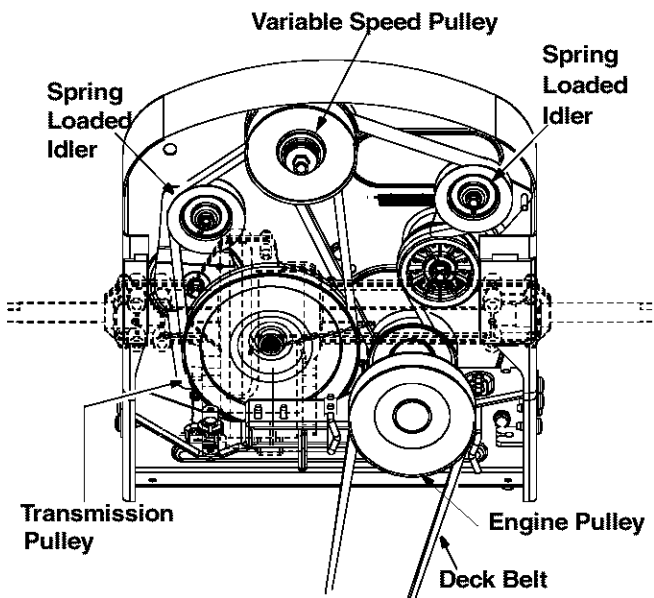

Figure 16
- Make sure to align the belt keeper in line with the frame. See Figure 16.
- Push the spring loaded idler, located on the left side of the transmission, to the right. Remove belt from around the idler and then the transmission pulley. See Figure 16.
- Push the idler bracket to the right and remove the belt. See Figure 16.